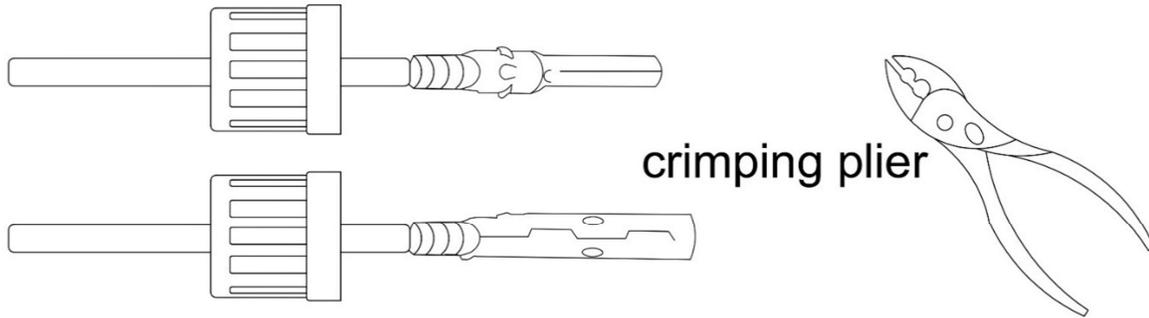

Figure 2.13 Crimping clamp crimping metal terminal
2.Crimp the metal terminal with crimping pliers, as shown in figure 2.13.